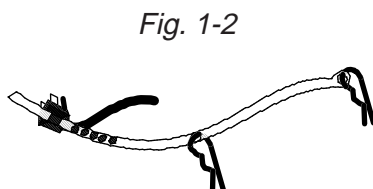

Fig. 1-2
- b. With the washer upright, pull the yellow shipping strap completely out of the back of the washer. Be sure both cotter pins come out of the washer. Note that the power supply cord plug will still be attached to the yellow shipping strap. (*Fig. 1-2*)